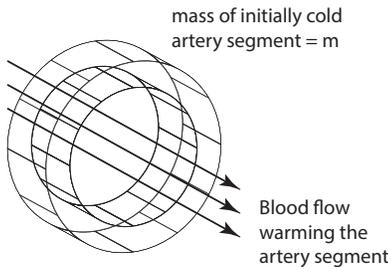

Figure 4: Segment of one epicardial artery on which heat balance will be performed
- 1) Thin arterial wall allowed a lumped parameter analysis of the artery segment (Medical and Engineering Physics, Volume 20). Perform a lumped heat balance on the segment shown in Figure 4, due to heat exchange with blood, to obtain a differential equation for the artery segment temperature with time. ◀ 6 points ▶